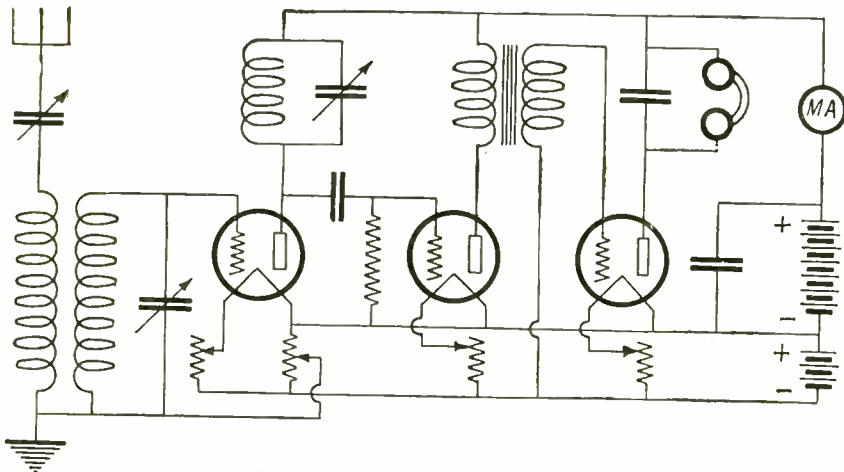

Fig. 1. How a milliammeter is connected in the circuit to register the amount of current flowing in the "B" battery circuit.
By the addition of one coil to the circuit of Fig. 1, as shown above, selectivity can be greatly increased.
as it exists today is that caused by other radio services, such as commercial ship to shore traffic, harmonic radiation from high power stations, oscillating receiving sets and the amateur transmitter. Among the foreign disturbances which are equally annoying if not more so, are X-ray machines, static, violet rays, power line induction and the like. The interference caused by other radio services can be combatted in one of two ways. The receiver can be made more selective, or the constants of the antenna system so adjusted as to provide sharper tuning. The first method is, of course, particularly applicable to the single circuit type of receiver. It is an inherent characteristic of this circuit to be broadly tuned. In other words, not only the desired signals are picked up, but those of neighboring frequencies are unpleasantly audible at the same time. Let us consider a remedy. In Fig. 1 we have a typical single circuit receiver, variously called a "Copp" circuit, direct coupled and conductively coupled receiver. It is readily seen that any incoming energy affecting the antenna circuit, A, L, V.C. and G, simultaneously affects the grid circuit, provided its frequency is somewhere near the range of the inductance L. No provision is made for adjusting the frequency of the grid circuit, therefore, it obtains "shock excitation" at any frequency affecting the antenna system. This makes for broad tuning and the consequent lack of selectivity.
WHEN asked by a beginner what is the most useful instrument to buy, the writer always recommends the purchase of a milliammeter and strongly advises that it should be kept wired in series with the "B" battery when the set is working, in the way shown in Fig. 1. If this is done, one has one's finger, so to speak, always on the pulse of the set and one's search for faults when they occur is considerably narrowed down. Take for example the case of a set such as that shown in Fig. 1. The milliammeter reading when the set is working perfectly is taken and noted down for future reference. Let us suppose that it is two milliamperes. If at any time signals become weak the first thing to do is to glance at the pointer of the instrument. Should it still register two milliamperes we know: (a) that there is nothing wrong with the plate circuits; (b) that the tubes are above suspicion as regards at any rate three out of their four connections (filament and plate); (c) that we need not look to batteries or battery connections for the source of the trouble; (d) that there is no short circuit or broken circuit on the high tension side of the set. This narrows down the field of the search to quite small dimensions. The fault, if it is not in the phones, must lie either in the grid circuits, which include grid condenser, grid-leak and transformers, or in what we may call the tuning part of the set. So far as transformers are concerned we are limited to the secondaries, for their primaries are in the plate battery circuit. By the tuning part of the set is meant (1) the antenna; (2) the ground; (3) the antenna inductance, and antenna condenser; (4) the closed circuit inductance and closed circuit condenser. The grid circuits can be tested out very easily. Begin with the audio frequency tube. Increase the negative potential of the grid biasing battery and watch the milliammeter. If current passed decreases, this grid circuit is as it should be. If not there is a fault. Test the detector in the same way by removing the grid leak and connecting the grid battery in its place. The radio frequency tube may be tried simply by moving the slider of the potentiometer from end to end. If there is no fault the milliammeter will register an increase as it moves towards the positive end. Having thus tested all the rest of the set nothing remains but the antenna and ground and the fault will be found in one or other of these.